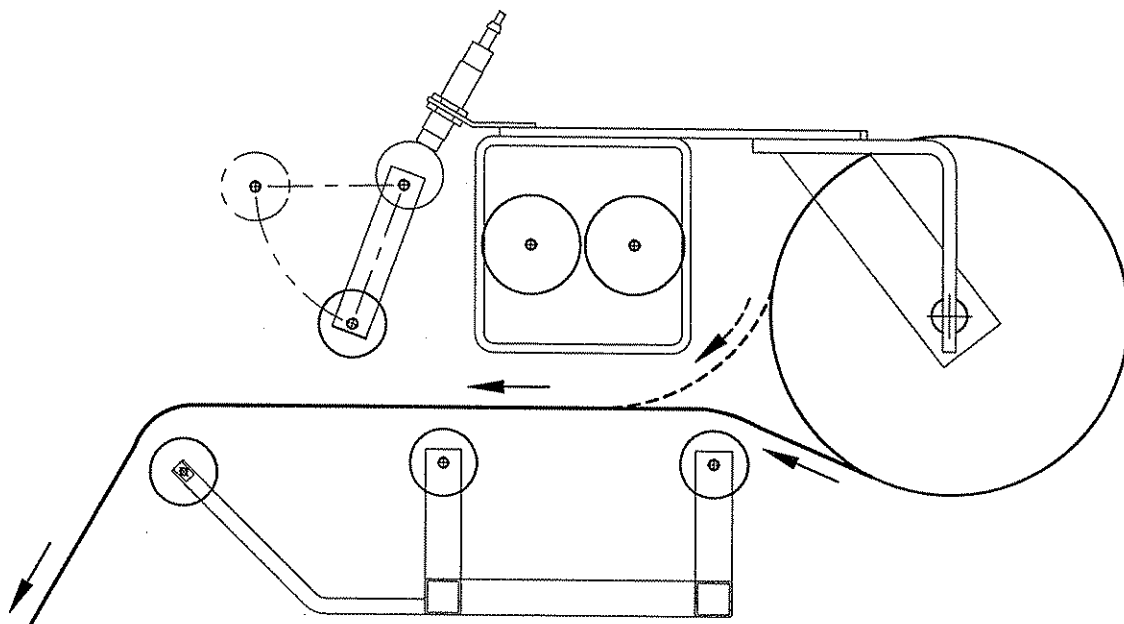

Fig. 1 OPEN CRADLE
The keyboard is used to control and monitor all the parameters of a Stretch Wrap Machine. It will also be used for in house calibration. See Fig 1.
6. Pass the roped tail of the film through opening (as shown on the film quick threading pattern DWG. # 418180 Fig. 1)